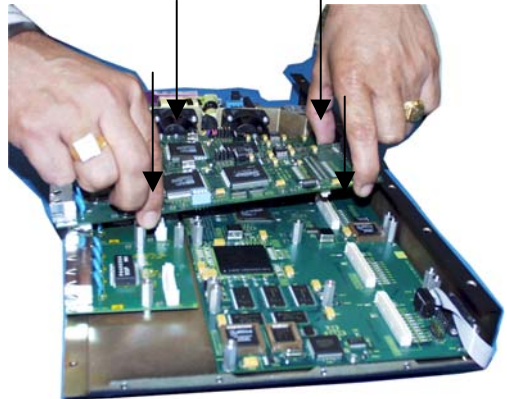

Fig. 3.6.2e Magnum 6KPM daughter board aligned with the bottom female connector for the installation
Step 4. Hold the daughter board with both hands at the end and align the two cream color latching connectors (male) placed at the bottom of the daughter board with the other female connector placed on the Granddaughter and main board. As shown below in Fig. 3.6.2e